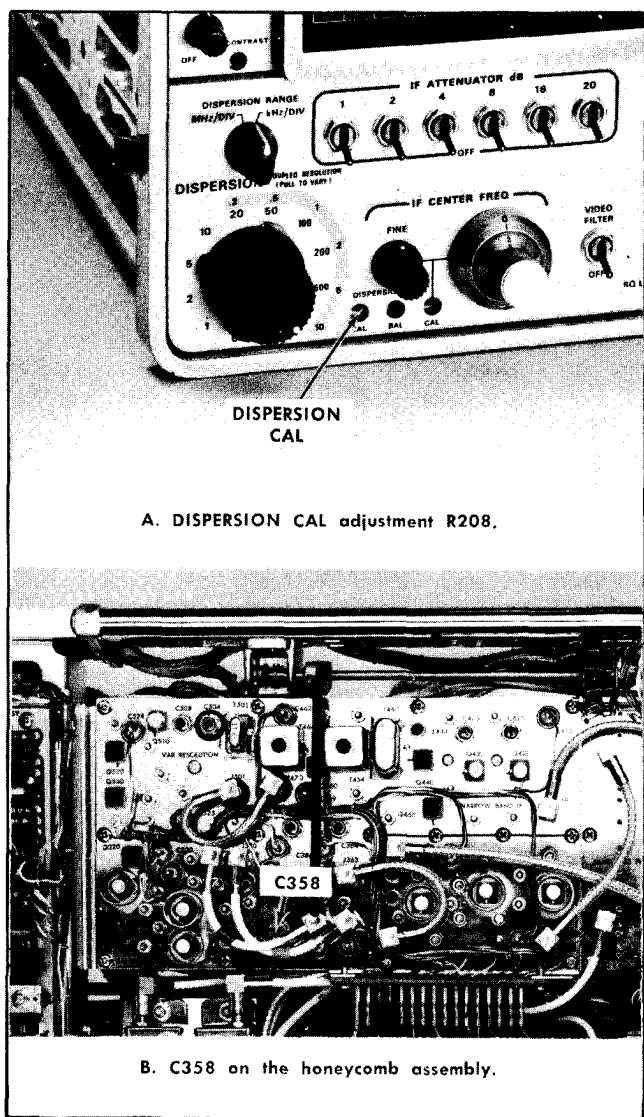

Fig. 6-22. Dispersion calibration adjustments.
d. Adjust the DISPERSION CAL R208 (Fig. 6-22) for 1 marker/division over the center 8 graticule divisions, then adjust C358 for display linearity.